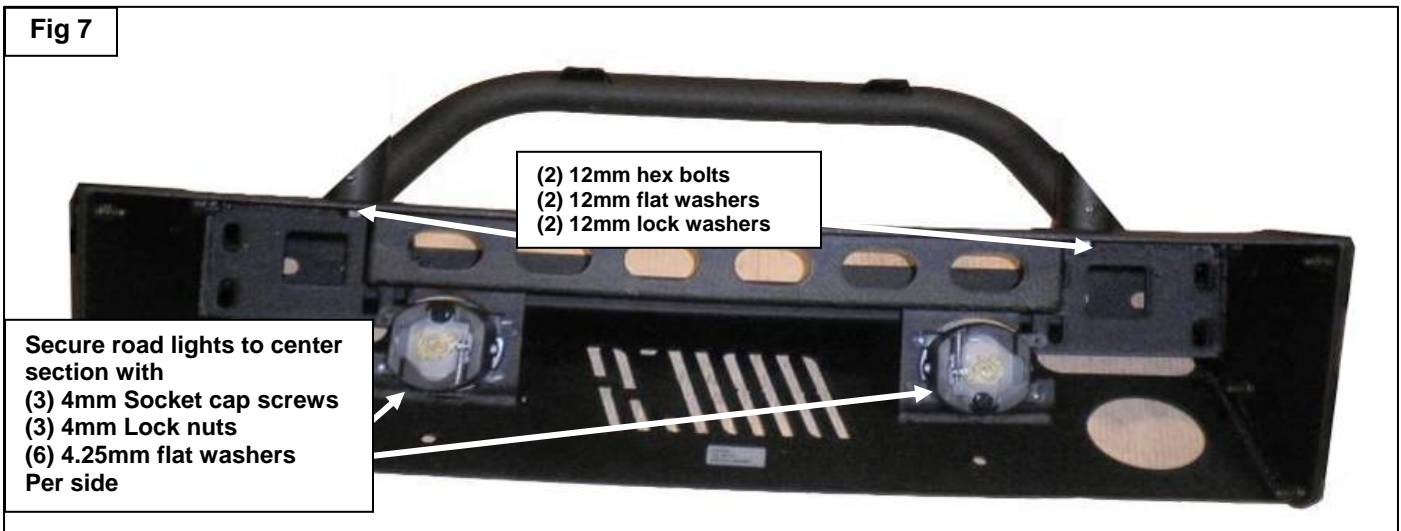

**Fig 6**
5. With the bumper removed, Select the Passenger & driver side bumper corners and mount each side to the center section, with the supplied (4) 10mm hex bolts, (8) 10mm flat washers, (4) 10mm lock washers & (4) 10mm nuts as seen in **(Fig 6 & 6A)** Snug fasteners as you go along once all fasteners are secure and your happy with the alignment tighten hardware.